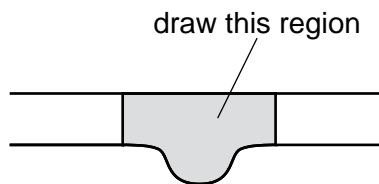

Fig. 2.1
- (a) (i) Draw a large plan diagram of the region of the leaf on **J1** indicated by the shaded area in Fig. 2.1. Use a sharp pencil.